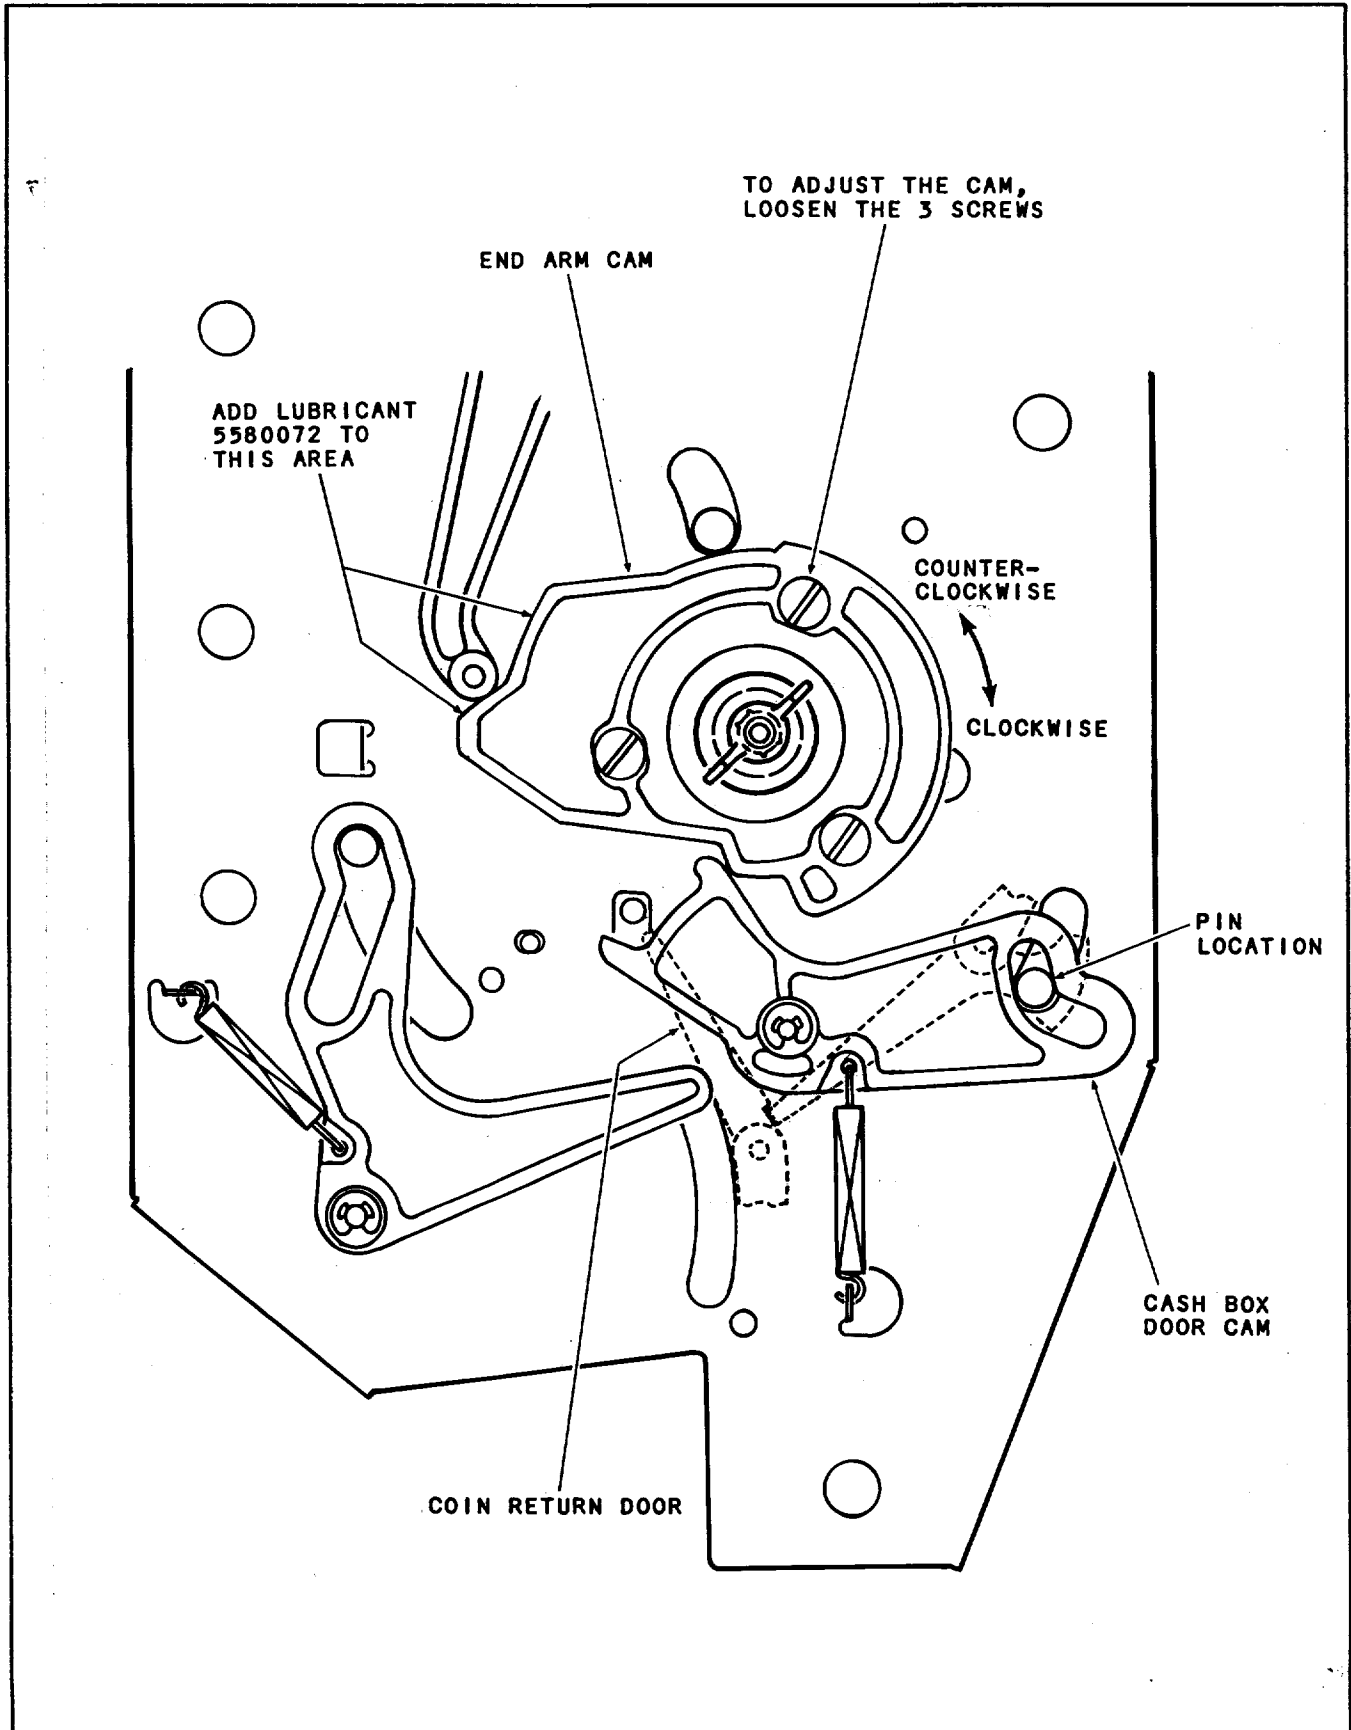

FIGURE 6
- A. Rotate the End Arm Cam clockwise. See Figure 6.
- C. Check the position of the Cash Box Door Cam. If the pin is too far down in the slot, turn the End Arm Cam counter-clockwise. See Figure 6.